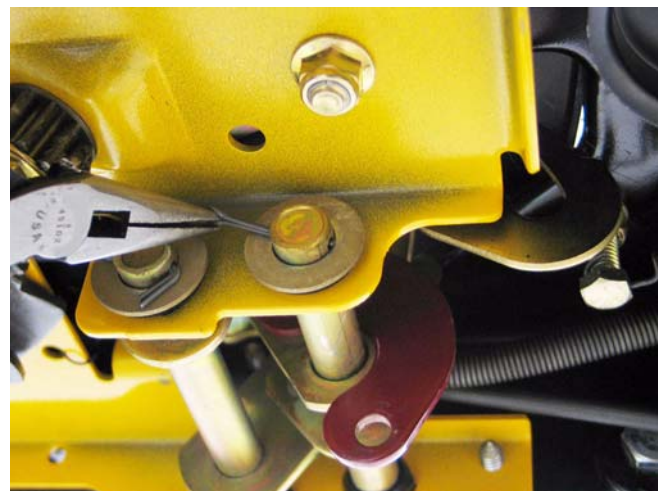

Figure 31.16
31.16. Remove and discard the cotter pin that holds the inboard bushing in place. See Figure 31.16.